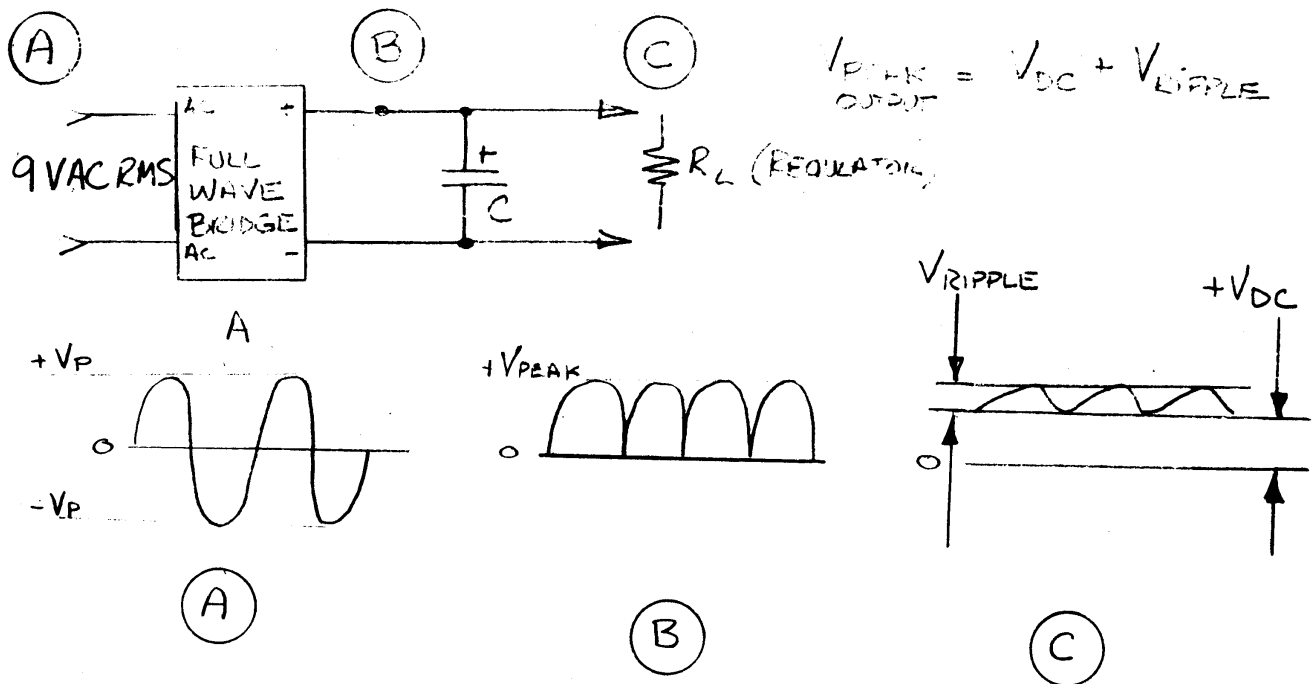

FIGURE 4 FILTER CIRCUIT WAVEFORMS
THE NEXT BIG CONSIDERATION IS THE FILTER CAPACITOR. A LITTLE WAVEFORM ANALYSIS MUST BE PRESENTED HERE SO THAT THE NOVICE APPRECIATES THE DERIVATION AND THE LEARNED SYMPATHY. FIGURE 4 SHOWS THE FILTER SECTION WITH A 9 VOLT TRANSFORMER. THE OUTPUT VOLTAGE FROM THE TRANSFORMER IS 9 VOLTS RMS. AS IT PASSES THROUGH THE BRIDGE THERE IS ABOUT A 3/4 VOLT DROP ACROSS EACH CONDUCTING DIODE (2). THIS MEANS THAT THE PEAK VOLTAGE PRESENTED TO THE CAPACITOR IS GOING TO BE ABOUT: